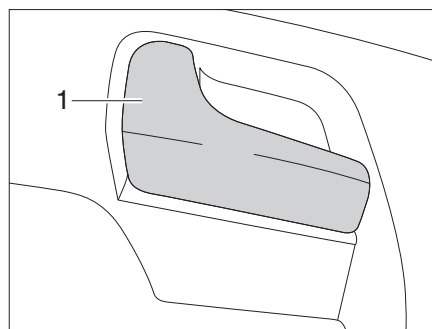

Fig. 44 Door lock of driver's door, inside
- Pull on the handle (Fig. 44,1). The door lock is unlatched.